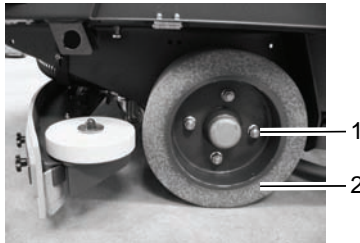

Fig. 44
The wheel nuts on the wheels (Fig. 44/1) must be subjected to their first check after 100 operating hours and subsequently every 200 hours.
The tightening torque for the wheel nuts (Fig. 44/1) is 103.3 lb ft.
2. Remove the wheel nuts (Fig. 44/1).
3. Pull off the wheel (Fig. 44/2).
4. Fit a wheel (Fig. 44/2).
5. Screw on and tighten the wheel nuts (Fig. 44/1).